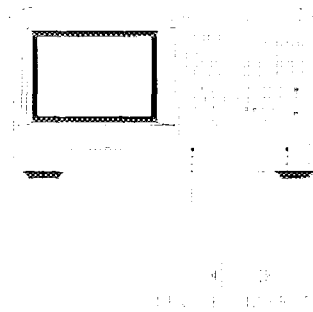

Figure 4-1. Device Connections for Measuring a Magnitude Response
- 1 Connect your test device as shown in Figure 4-1.